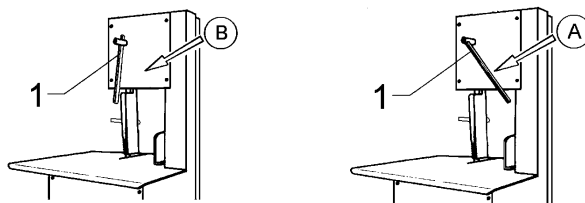

Fig. 7.6.1
7.6.1 Blade tensioning setting (Fig. 7.6.1)
Blade tensioning could be settled mechanically moving knob “1”. Rotate the knob in position “A” (Fig. 7.6.1) blade is tensioning. To unblock the blade rotate the knob in the position “B”.